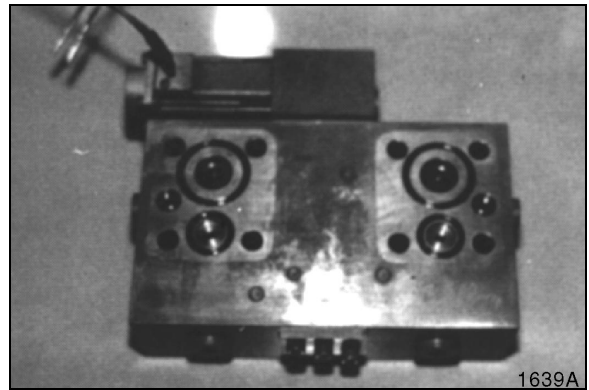

Figure 46
1. Remove O-rings. See Figure 46.